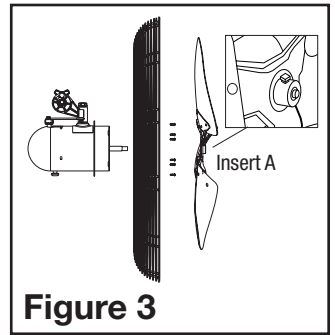

Figure 3
1. Install the rear grill onto the motor, lining up the six holes in the grill with the six threaded holes in the motor. Install (6) 10-32 x 5/16" hex screws through the rear grill into the motor. Securely tighten all (6) screws (**Figure 3**).
2. Push the fan blade onto the motor shaft, centering the hub facing away from the motor, until it stops against the shaft (**Inset A**). Align square head bolt with flat of the motor shaft. TIGHTEN VERY SECURELY WITH AN ADJUSTABLE WRENCH. Failure to securely tighten the bolt could result in damage to the fan and/or personal injury (**Figure 3**).